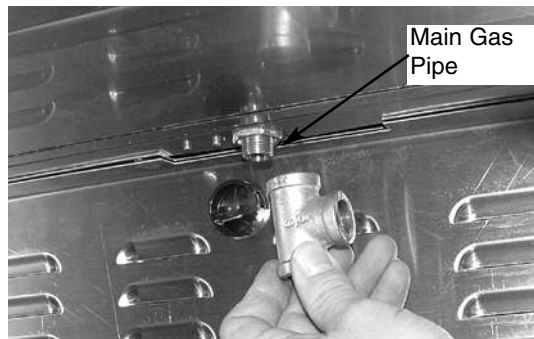

Fig 25
3. Attach the “T” fitting to the main gas line as shown. Tighten with wrench. (See Fig. 25)